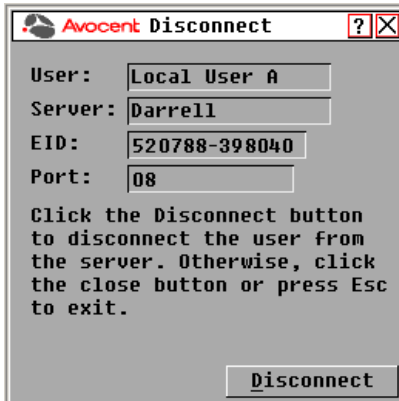

Figure 3.15: OSCAR Interface Disconnect Dialog Box
1. On the User Status dialog box, click the letter corresponding to the user to disconnect. The Disconnect dialog box will appear as shown in Figure 3.15.